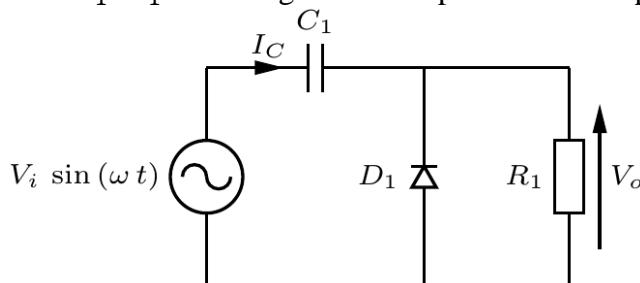

Figure 1b (5)
- b. If the current source is replaced by a variable current source, what value of current will cause the diode to be on the point of conduction? (4)
- c. i) Briefly describe the operation of the circuit in figure 1b assuming that the time constant $R_1 \cdot C_1$ is much greater than period of the input signal.